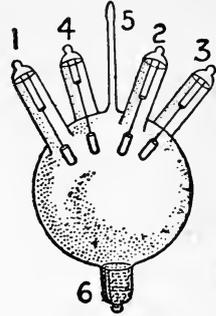

FIG. 74.
The static converter, in its present form, consists of a glass globe (see fig. 74) about 8 inches in diameter, on the top of which there are four glass tubes (1, 2, 3, 4), closed at the outer ends and sealed into the globe, in which four positive iron-cup terminals are sealed. Three of these terminals (1, 2 and 3) serve as connection with the three wires of the three-phase current circuit, the fourth (4) being connected (only when the apparatus is started) for a short time to a circuit in which a "kicking" coil is inserted. At the bottom of the globe the negative terminal (6) is affixed, consisting of a glass cup filled with quicksilver which connects to the external circuit by means of a platinum wire sealed into the tube. The connection tube (5) on top of the globe serves only to exhaust the air from the globe, and is sealed off during the process of manufacture.